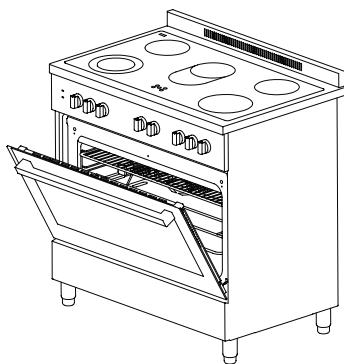

Figure 13
3. Place the safety panel under control panel by opening the oven front cover glass. (figure 13)